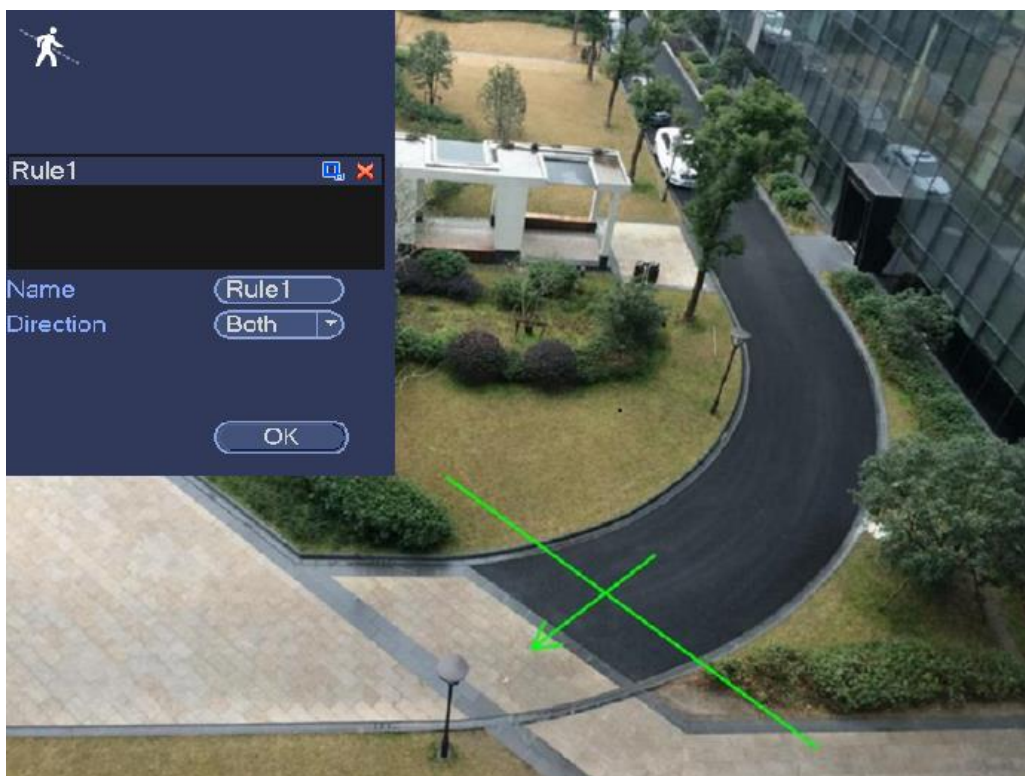

Figure 4-146
1. Click Draw button to draw the tripwire. See Figure 4-146.